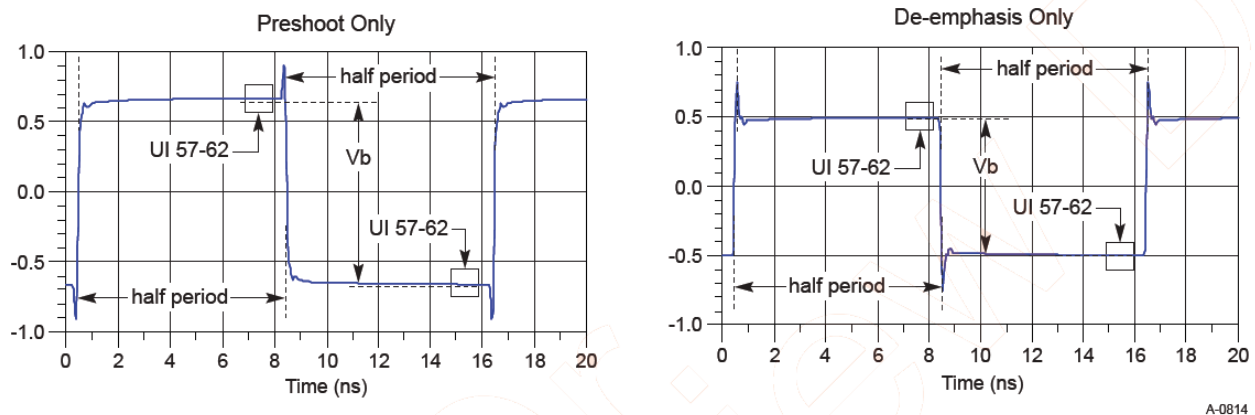

Figure 228 Waveform measurement points for preshoot and de-emphasis
8.0 GT/s, 16.0 GT/s and 32.0 GT/s PCIe signaling must support the full range of presets given in Table 8-1 (PCIe Base Specification Revision 5.0). Presets are defined in terms of ratios, relating the pre-cursor (V_c) is referred to as pre-shoot, while the post-cursor (V_b) is referred to as de-emphasis. This convention permits the specification to retain the existing 2.5 GT/s and 5.0 GT/s definitions for Tx equalization, where only de-emphasis is defined, and it allows preshoot and de-emphasis to be defined such that each is independent of the other. The tolerances in Table 8-1 (PCIe Base Specification Revision 5) also apply to 2.5 and 5.0 GT/s de-emphasis. The maximum swing, V_d , is also shown to illustrate that, when both c_{+1} and c_{-1} are nonzero, the swing of V_a does not reach the maximum as defined by V_d . The high frequency nature of PCIe signaling makes measurement of single UI pulse heights impractical. Consequently all amplitude measurements are made with low frequency waveforms as shown in Figure 228.